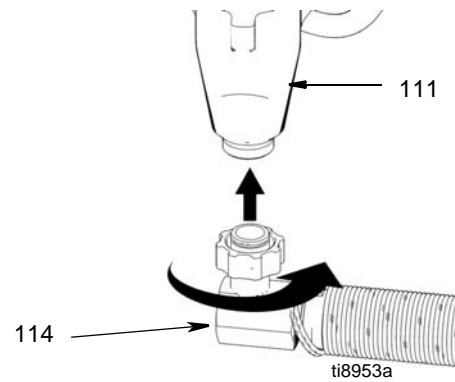

FIG. 27
- 8 (Fig. 27) Install suction hose (114) to bottom of pump (111).